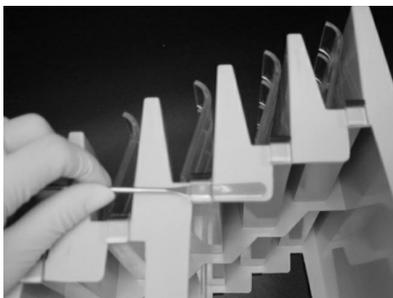

Fig. 4.2.2a. Insert a thin spatula under the clamp.
1. If the user cannot remove the clamps by hand, insert a small tool, such as a thin spatula, under the piece of the clamp that wraps around the base where it snaps into place (Figure 4.2.2a).